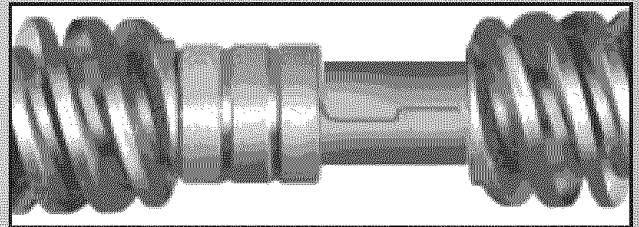

Fig. 1-9
- Engage “hook” on “middle” rail with “hook” on “first” rail section. **Fig. 1-9.**